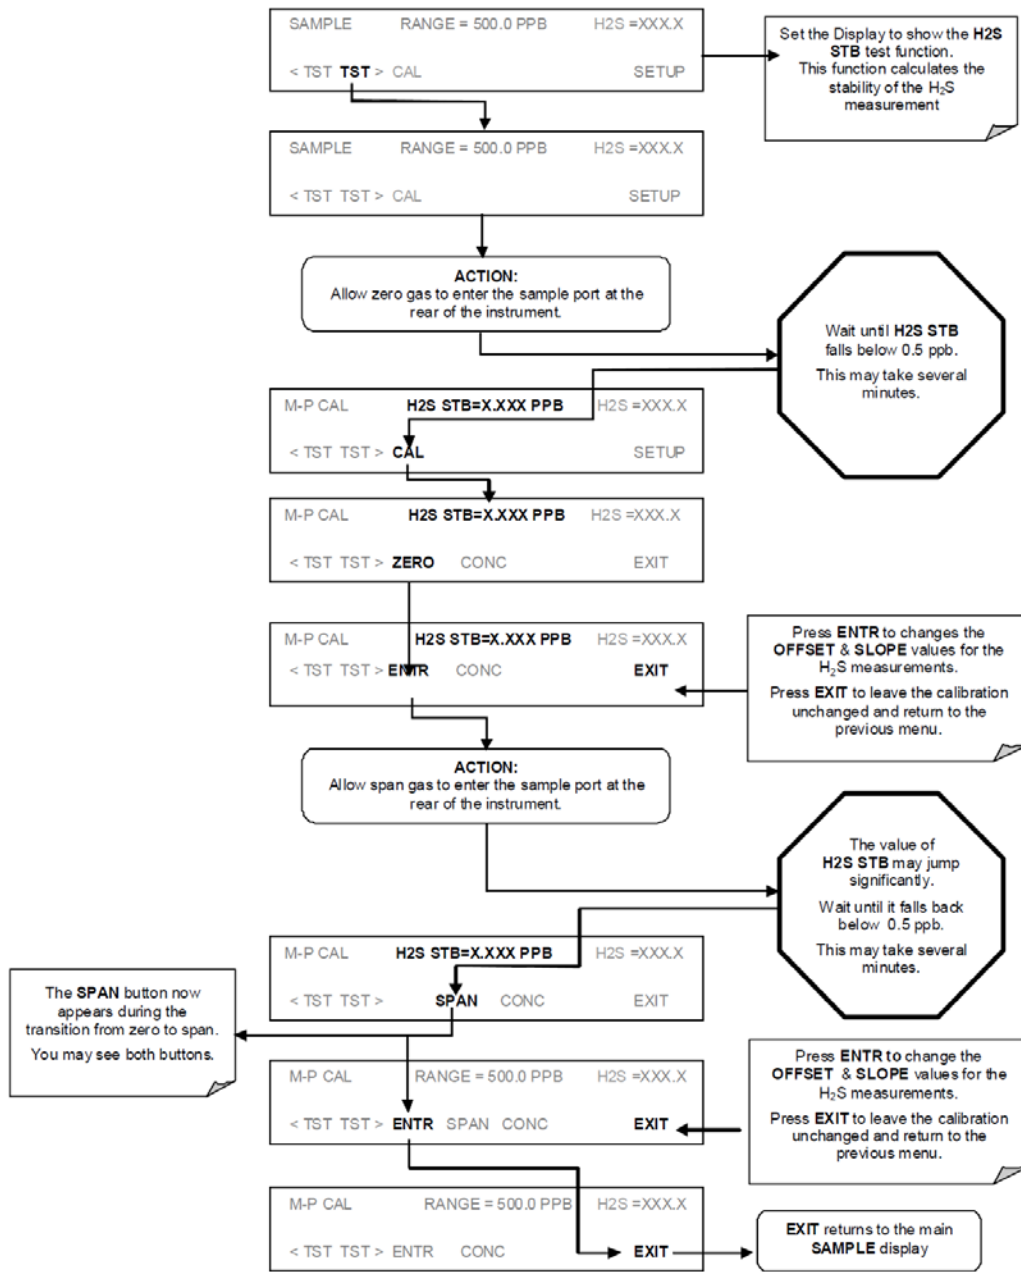

Figure 7.3 Button sequence to carry out ZERO and SPAN calibration.
- 7.2.3 Perform the zero/span calibration (Figure 7.3). If the ZERO or SPAN buttons are not displayed during the zero and span calibration, the measured concentration value is too different from the expected value and the analyzer does not allow zeroing or spanning the instrument.